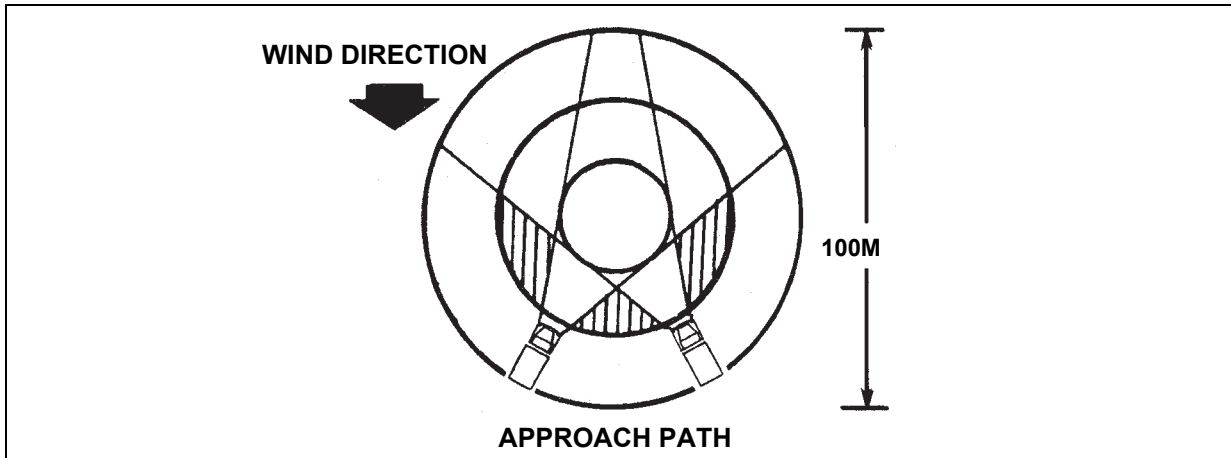

Figure 4-14. Emergency Lighting Pattern
- **Emergency Lighting.** During an emergency, various lighting patterns can be used with proper coordination between the aircrew and ground personnel. A common method using vehicles is shown in figure 4-14. This method should only be used in an emergency because it impairs the pilot's night vision and can disclose the landing site position.